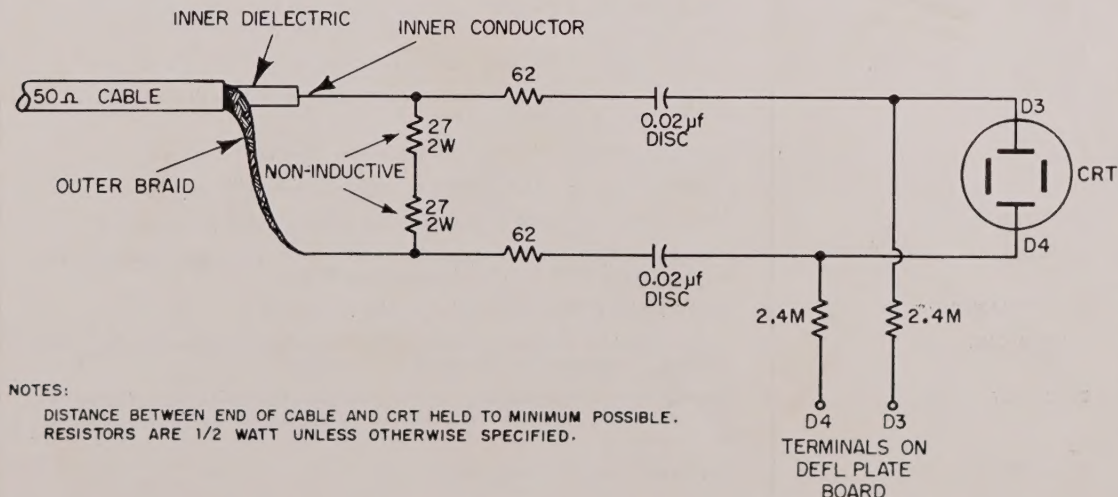

Figure 2-1. Method for Viewing Pulses Direct at Cathode-ray Tube Plates
d. Direct Connection To Deflection Plates (See Figure 2-1)
pulses direct on high-impedance deflection plates. In many cases, using the deflection plate terminals provided by cathode-ray oscilloscope manufacturers is unsatisfactory because of the long leads from the terminal board to the deflection plates. Figure 2-1 indicates the proper hook-up for viewing pulses directly at the deflection plates of a cathode-ray tube.